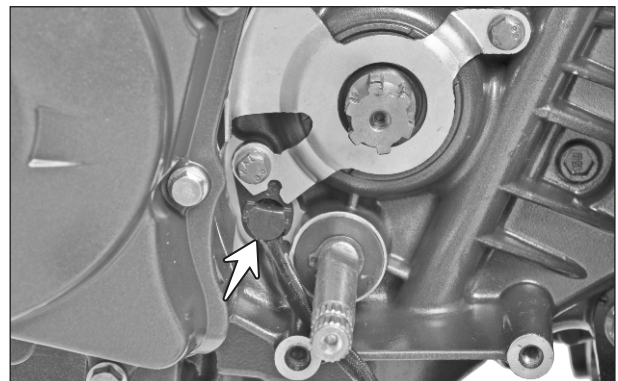

Fig. 5.33
- Speed sensor is mounted on the crank case LH near engine sprocket. (Fig. 5.33)